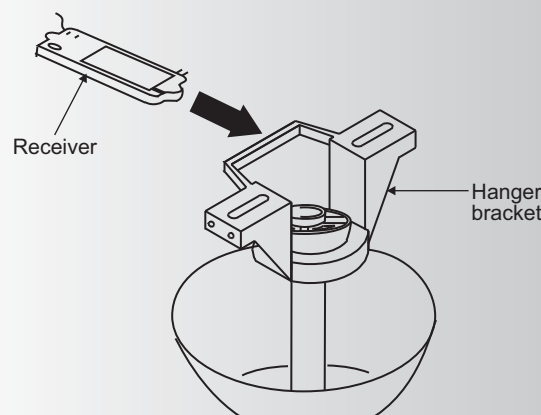

Fig. 13
**Step 1.** Insert the receiver into the ceiling mounting bracket with the flat side of the receiver facing the ceiling. (Fig. 13) For best performance, make sure the Black Antenna, on the end of the receiver, remains extended and not tangled with any of the electrical wires.